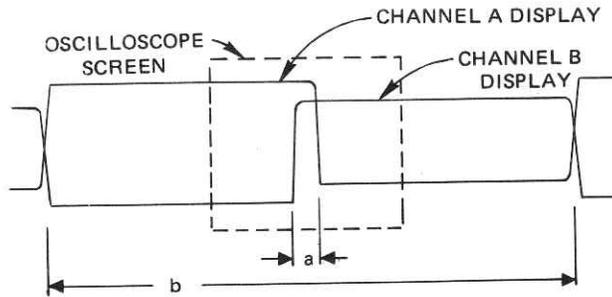

Figure 4-1. Alternate Time Symmetry Test Setup
1. Set the frequency dial to maximum cw, the FREQ (Hz) switch to X 100K and the WAVEFORM selector to . Connect 50Ω OUT (HI) to the oscilloscope.
- Set the oscilloscope time base to 0.2 ms/division. Adjust the FREQ VERNIER control until the oscilloscope screen is filled by approximately one cycle (see setup and display in Figure 4-1).